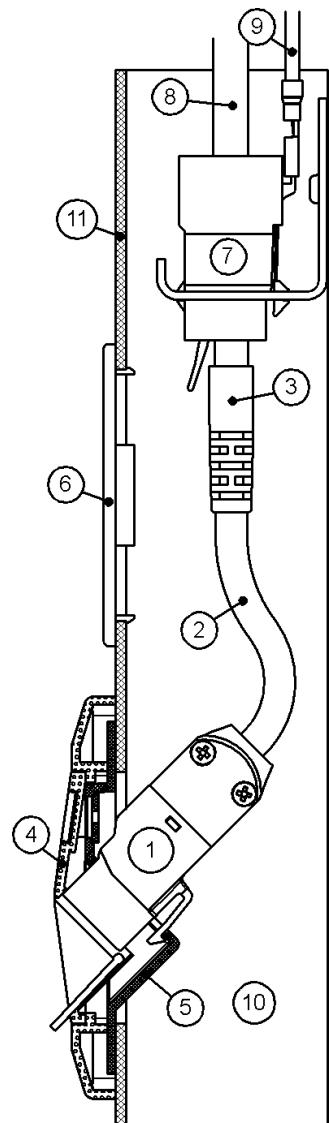
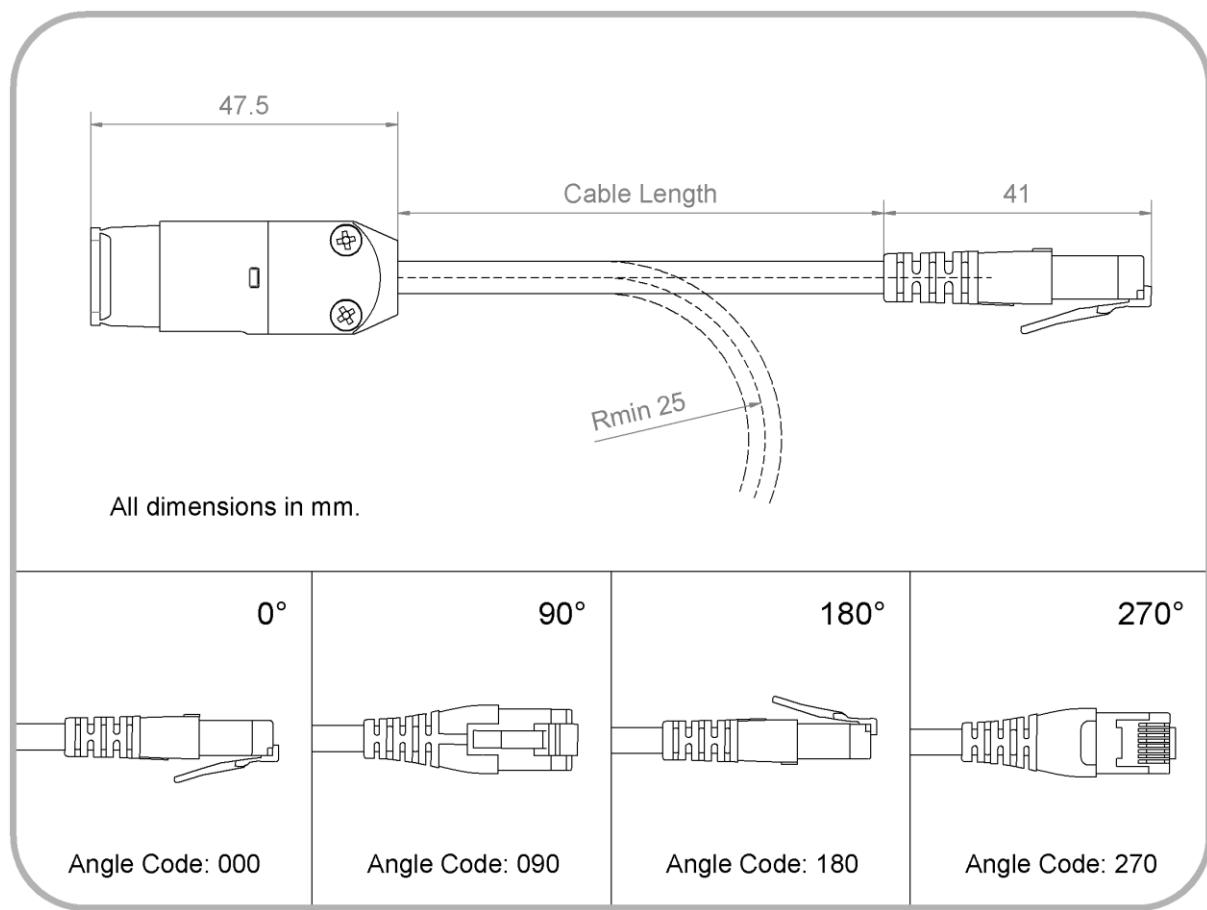
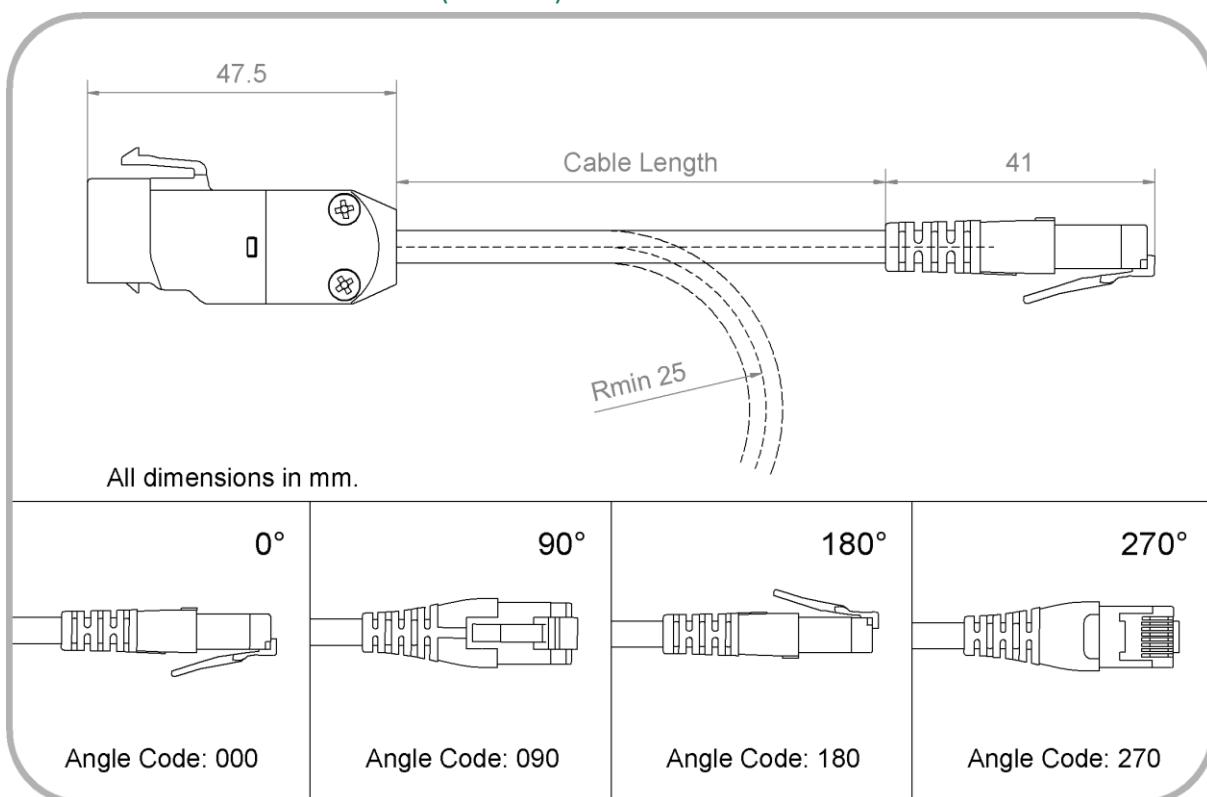

Figure 6
Figure 8. Technical drawing for EN-65S, showing definition of cable length, as well as angle codes.
Figure 9. Technical drawing for EN-65K, showing definition of cable length, as well as angle codes.
Figure 6 shows a typical assembly within a cable duct (10), with cover (11). The Network Isolator EN-65K (1) is shown installed in a Keystone-compatible wall outlet, which usually consists of a support frame (5) and a plastic front panel (4). The RJ45 plug (3) of the Network Isolator is to be inserted into a RJ45 jack module termination (7) at the end of the permanently installed data cable (8). When retrofitting the Network Isolator EN-65K (1) into network channels, the existing RJ45 jack module from the wall outlet can be shifted back within the cable duct (10), and used as the connection to the Network Isolator.
The transmission properties of permanent network installations fitted with EN-65 Network Isolators can be checked with cable certification devices which are suitable for testing electrically isolated cable sections. To be able to conduct such an inspection, the test equipment must be configured in an AC wire-map mode. The entire cable route, including the Network Isolator, can be tested to EIA/TIA-568 Cat.5e or ISO 11801 Class D. Testing of the cable shielding and the conductor resistance is not possible in this mode. If however, these tests are required, or if the quality of the cable route itself needs to be tested (without the Network Isolator), then testing can be performed by bypassing the Network Isolator, and connecting directly to the RJ45 socket (7), set back within the cable duct, as indicated in Figure 6.
The length of the flexible cable stub (2) (see Figure 6 in section 7.1) of the EN-65 Network Isolator is available in selected lengths from 30 mm to 10 m (inclusive). Refer to Figure 8 and Figure 9, as well as the table in section 10.4. It is recommended that this length be kept to a minimum. When compared to a fixed installed cable, this flexible cable stub may be more susceptible to near end crosstalk (NEXT) and alien crosstalk (AXT). The flexible cable stub itself generates a small, but length-dependent amount of insertion loss (IL).
For flexible cable stub lengths between 30 mm and 500 mm (inclusive), the plug angle can be chosen, easing mechanical constraints in certain assembly configurations, and removing impermissible torsion strains from the cable assembly. Refer to Figure 8 and Figure 9. The manufacturing tolerance for the plug angle is  $\pm 20^\circ$ .
When placing orders for EN-65, please specify the exact Order Code (OC). The order number is a hyphenated concatenation of the Article Number (A10068 for EN-65K, or A10069 for EN-65S), the Length Code for the desired cable length (see section 10.4 above), and the Angle Code for the desired plug angle (see Figure 8 and Figure 9). For flexible cable stub lengths greater than 500 mm, the EN-65 will always be manufactured with a plug angle of 0°, and the Angle Code can be omitted for such orders.